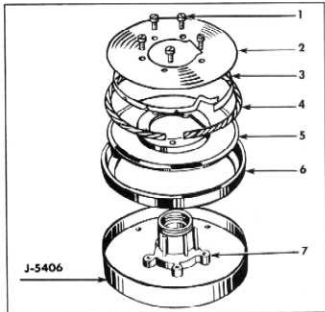

Fig. 19
place piston sub assembly (7) inside of ring with sleeve up (fig. 19).
19. On top of plate (7) place new leather packing (6) with the lip up and insert retaining plate (5) inside of packing lip, align cut out and holes in plate with flat surface and screw holes in piston plate.
20. Cut a new wicking (4) to fit the inside diameter of packing lip. Dip wicking in hydraulic brake fluid and place inside of packing lip. Insert packing ring (3) so barbs point up and into the wicking. Compress loop end of ring and engage notch at loop end with hook near the other end.
21. Place retainer plate (2) over wicking and ring, align holes and cut out of plate and install and tighten securely retaining screws.